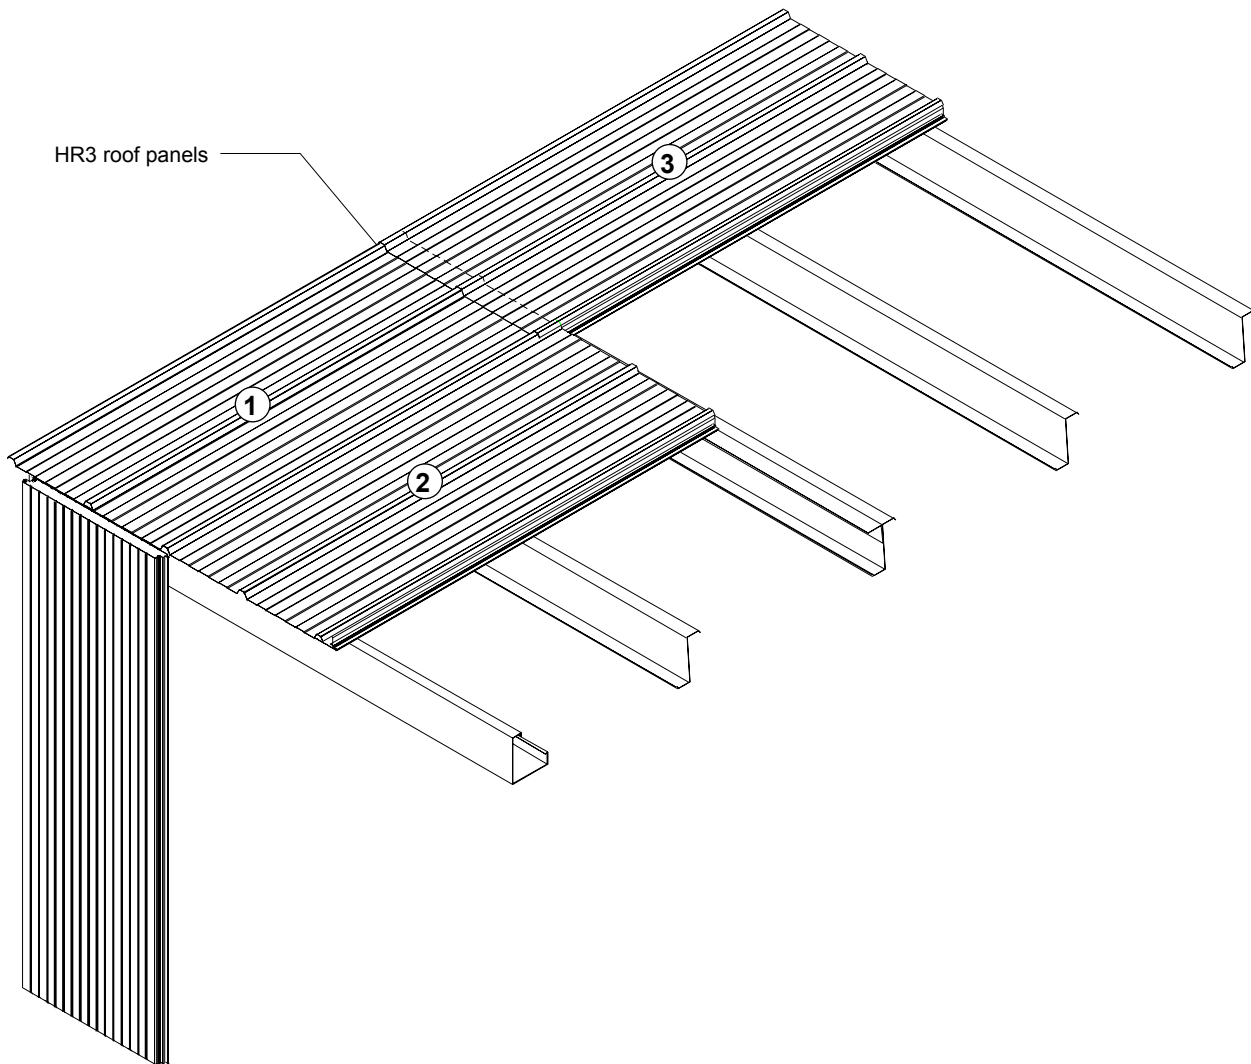

Figure 12
- 19.1 HR3 roof panels must be installed in a specific sequence. This ensures the correct lapping of the side and end laps (see figure 12, below). The panel numbers correspond with the order of installation.